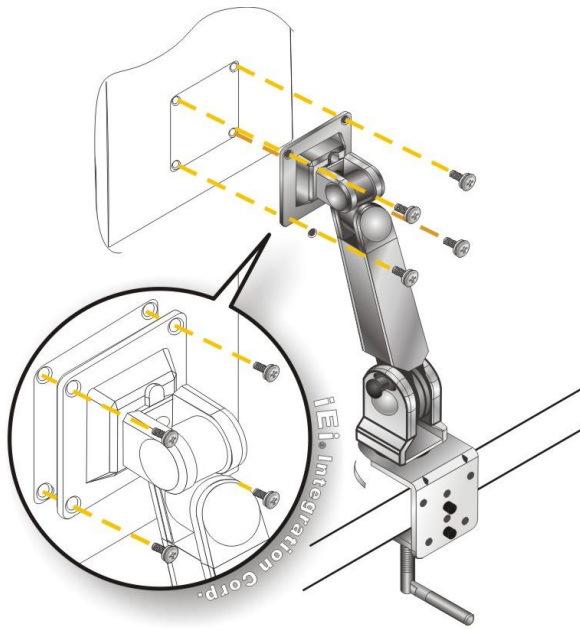

Figure 3-44: Monitor Arm Mounting
- Step 2:** Secure the monitor to the arm with the supplied retention screws (Figure 3-44).